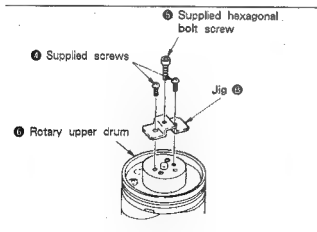

Fig. 7-46.
- 4) Mount the supplied jig ⑤ (Ref. No. J-10) on the dynamic damper mounting hole with the two supplied screws ④, and mount the supplied hexagonal bolt screw ⑤ on supplied jig ⑤, then remove the rotary upper drum ⑥. (See Fig. 7-46.)